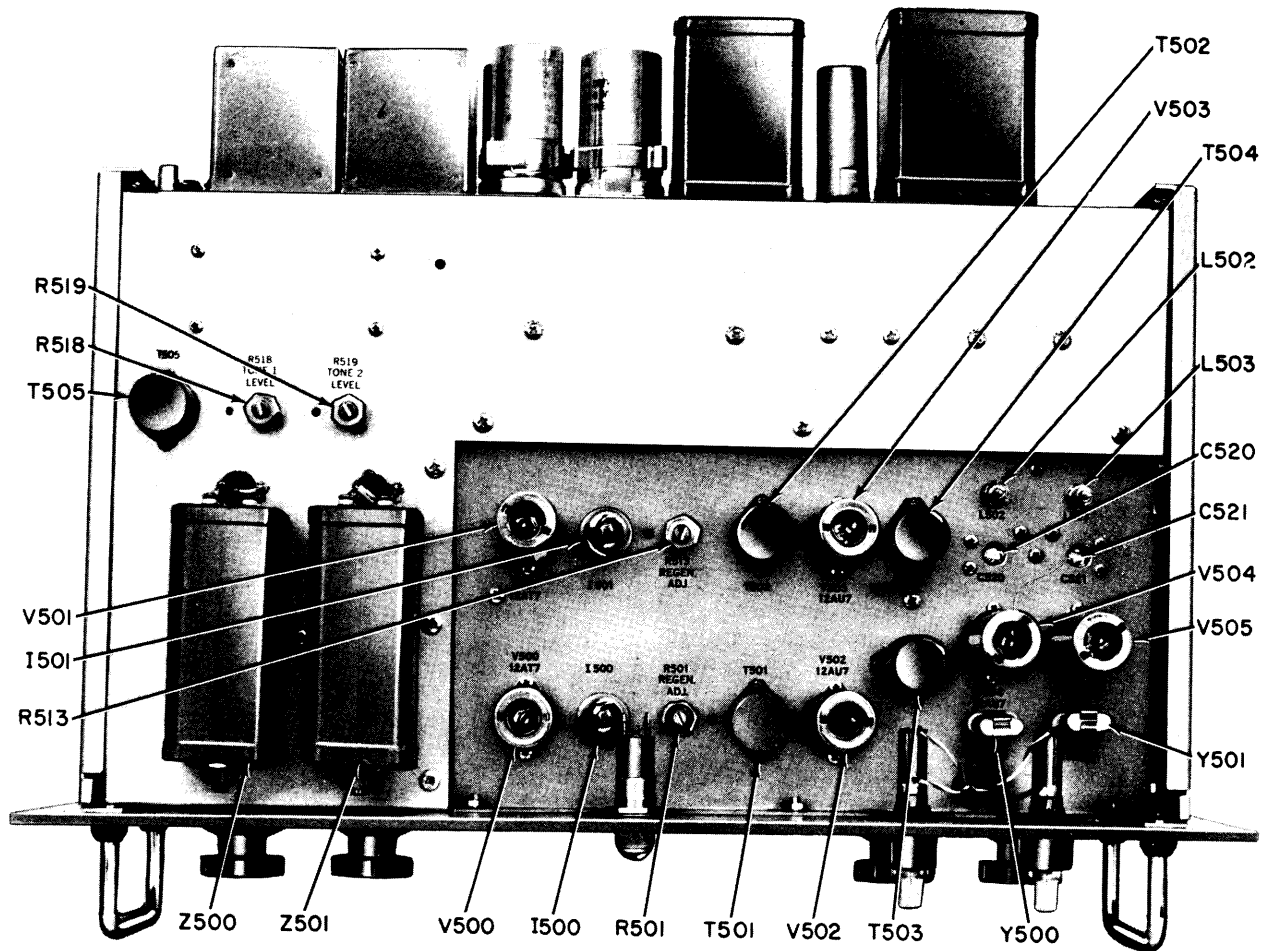

Figure 5-1. Top View, Test Generator TTG-2
a. GENERAL. - Troubleshooting is the art of locating and diagnosing equipment troubles and maladjustments; the information necessary to remedy the equipment troubles and maladjustments is reserved for Section 5 of this manual under the heading "Maintenance". Refer to the overall schematic diagram given in Section 7 and to the information given in paragraph 4-2 of this Section as additional aids when troubleshooting the TTG-2. Figures 5-1 and 5-2 show the locations of the major components of the TTG-2 and should be used to facilitate the location of components during troubleshooting procedures.
(1) When withdrawing miniature tubes from their sockets, pull them straight out; do not rock or turn them. If pins of miniature tubes are bent, straighten them with a proper pin straightener before replacing the tube.
(2) Some circuits, for example oscillator circuits, may function better with one tube than with another even though both tubes are new or both tubes measure the same when checked on a tube tester.
(3) Tubes should not be replaced or discarded merely because they have been used for some time. Satisfactory operation in a circuit is the final proof of tube quality; the tube in use may work better than a new tube.
d. ALIGNMENT AND ADJUSTMENT. - If increased distortion should indicate a need for realignment, the TTG-2 may be readjusted according to the procedures outlined in paragraphs (1) and (2) below. Refer to figure 5-1 for location of alignment and adjustment controls.
(1) ADJUSTMENT OF AUDIO SECTION. - Proceed as follows: